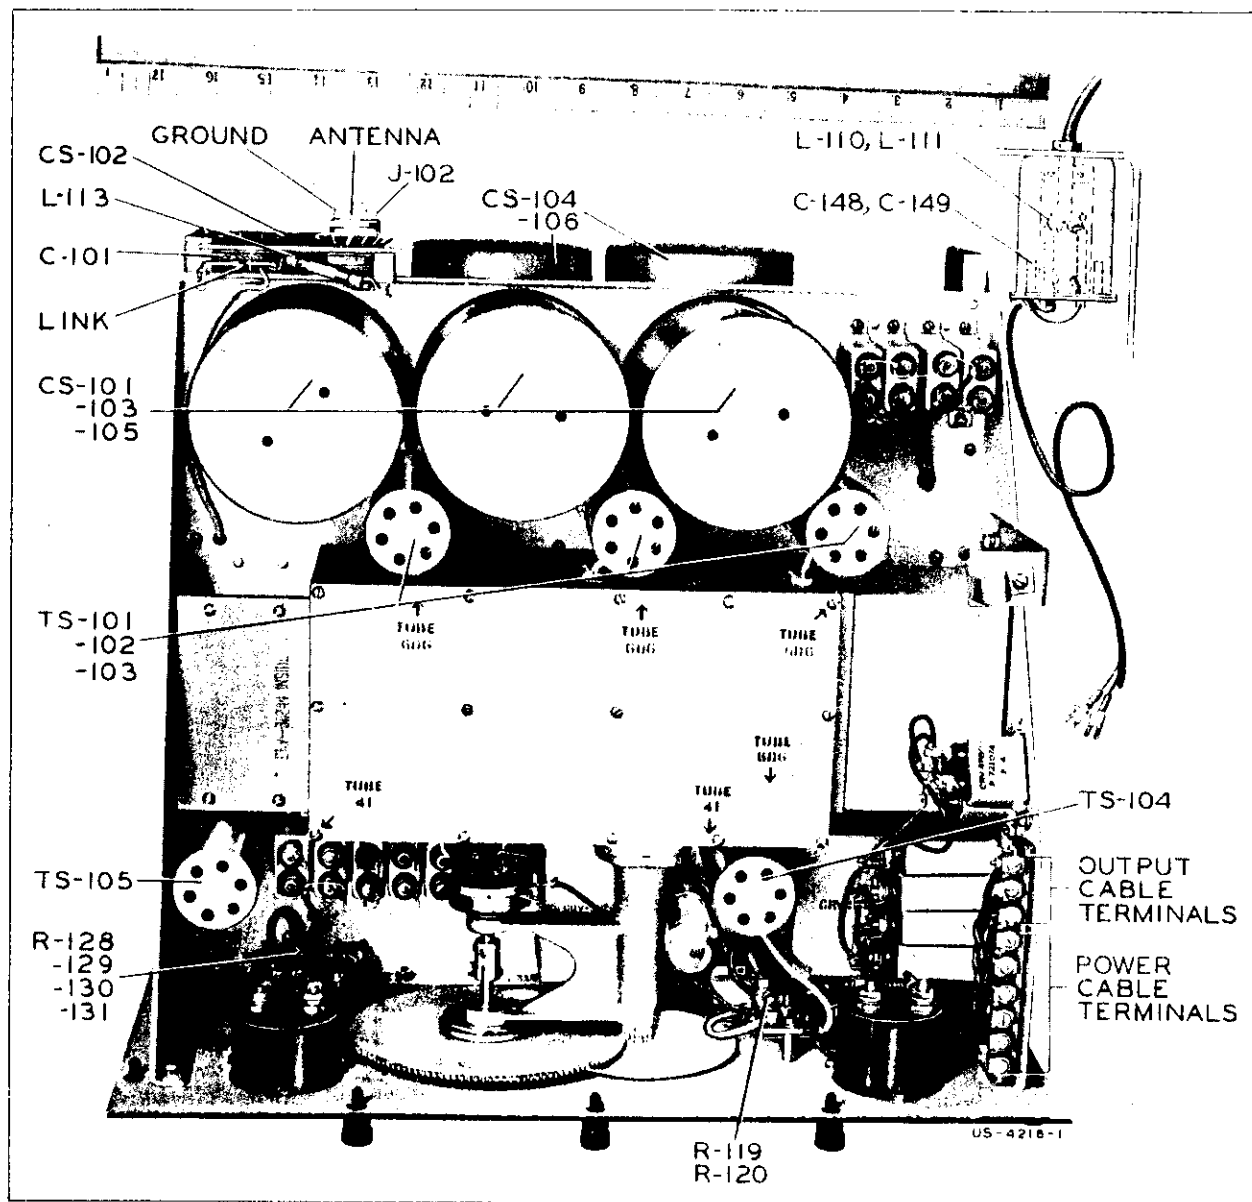

Figure 2—Receiver Unit CRV-46155 (Top View of Chassis)
7.2-1 The tube locations are shown in Figures 2 and 15.
to tubes, for servicing and for cable connections. All components are mounted on the chassis or panel forming a single assembly (see Figures 2, 3, and 6). Audio and AVC components are mounted directly behind the panel with filter and audio tuning units at the right, the first audio and output tubes in the center, and the AVC circuit at the left. Audio wiring, resistors, etc. are located beneath the chassis. The tuning capacitor assembly is located just back of the audio components. The top plate on the capacitor assembly is removable for inspection. At the rear of the chassis are located the r-f and detector tubes and the r-f coils, which are protected and shielded by screw cans. The power terminals are located at the right of the chassis and the antenna and ground terminals at the left. The band switch, r-f components and wiring are located beneath the chassis in a fabricated shield box. The large cover plate on the bottom of the receiver is removable for inspection and access to these parts.
- 9 7-3 An output cable filter assembly consisting of series coils L110 and L111 and by-pass capacitors C148 and C149 prevents signal pick-up on the phone leads and output cable connecting the control box to the receiver. It is mounted in a shielded can which prevents any direct radiation when assembled inside the receiver cabinet. This filter unit is mounted in the cabinet and is illustrated in Figure 2.